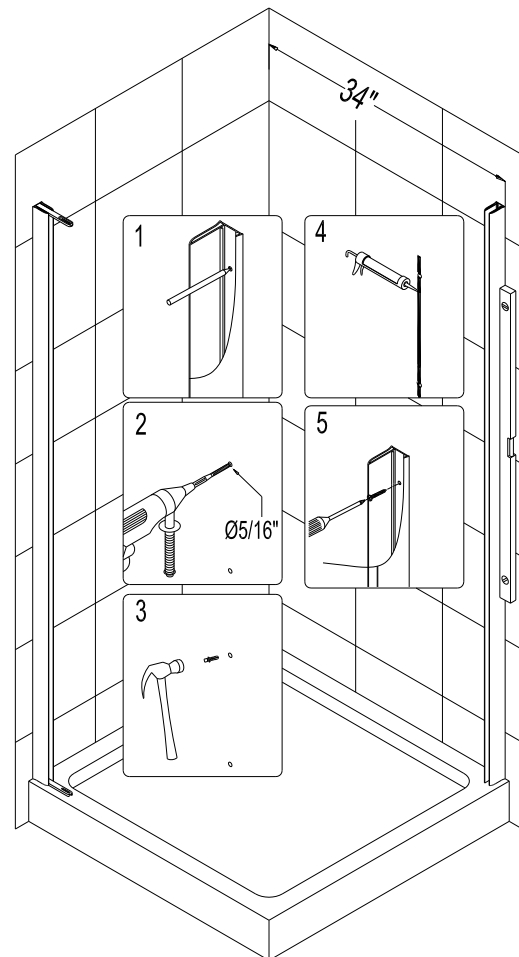

Fig. 2
3. Repeat Step 1 to attach the **Wall profile 2 (04)** to the wall (this wall profile will have no pre-cut seat for pivot retainers). Doesn't require pivot retainers. See Fig. 2 for details.